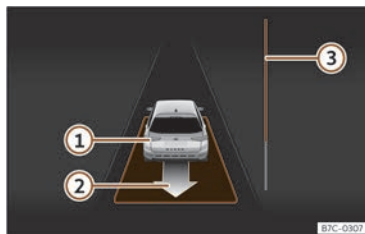

Fig. 136 On the instrument panel display: driving off from perpendicular parking.
- Reverse until the continuous ParkPilot signal sounds; **OR**: reverse until the instrument panel display shows the forward indication. The progress bar >>> Fig. 136 (3) indicates the distance to cover.
- Press the brake pedal until the parking assist system completes the steering wheel turns; **OR**: press the brake pedal until the symbol (S) goes out on the instrument panel screen.